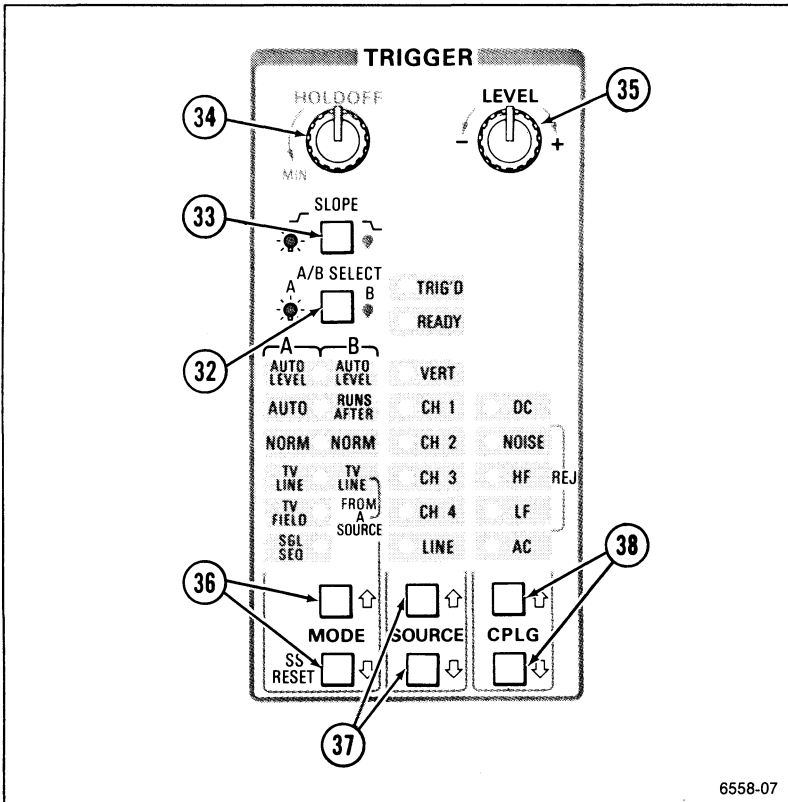

Figure 2-5. Trigger controls and indicators.
Refer to Figure 2-5 for location of items 32 through 38.
- ③2 **A/B SELECT Button**—Directs the MODE, SOURCE, CPLG, SLOPE, and LEVEL controls and Trigger lights (TRIG'D and READY) to either the A or B Trigger system (A, when lit; B, when not lit).